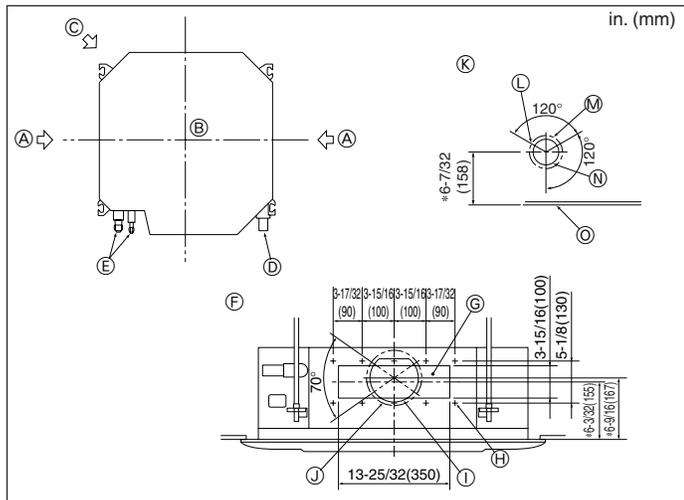

Fig. 3-4
3.4. Branch duct hole and fresh air intake hole (Fig. 3-4)